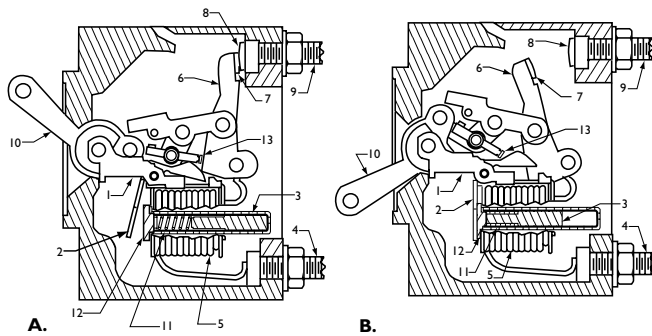

Fig. 12 Operating mechanism of an Airpax magnetic circuit breaker.
All trip times and 100 percent hold specifications, as shown on delay curves, assume that the circuit breaker is in a normal mount position as illustrated in Figure 12. With the delay mechanism situated on the horizontal plane, gravity has little or no effect on the core.
The magnetic breaker shown in Figure 12 is essentially a toggle switch composed of a handle connected to a contact bar which opens and closes an electrical circuit as the handle is moved to the "ON" or "OFF" position. The handle is connected to the contact bar by a link which is collapsible.
As long as the current flowing through the unit remains below 100 percent of the rated current of the unit, the mechanism will not trip and the contacts will remain closed as shown in Figure 12 (a). Under these conditions, the electrical circuit can be opened and closed by moving the toggle handle (10) on and off.
If the current is increased to a point between 100 percent and 125 percent of the rated current of the unit, the magnetic flux generated in coil (5) is sufficient to move the delay core (3) against spring (11) to a position where it comes to rest against pole piece (12) as shown in Figure 12 (b).
The movement of this core against the pole piece increases the flux in the magnetic circuit described above enough to cause the armature (2) to move from its normal position shown in Figure 12 (a) to the position shown in Figure 12 (b). As the armature moves it trips sear pin (13) which, in turn, triggers the collapsible link of the mechanism, thus opening the contacts.